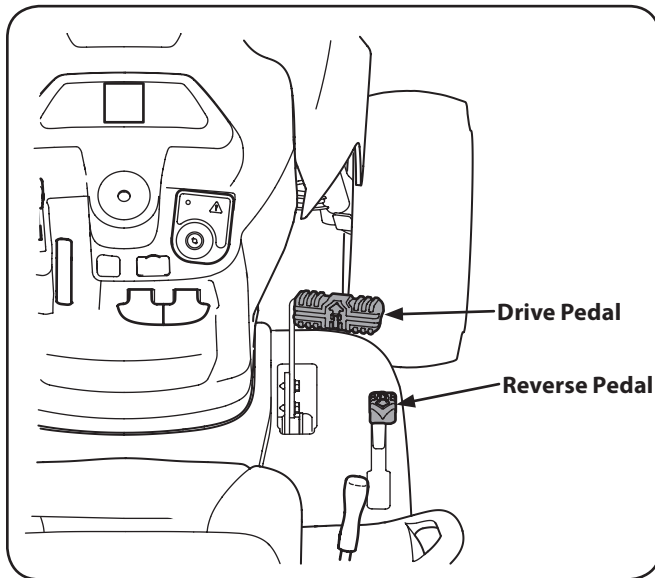

Figure 5-1
2. To travel FORWARD, slowly press the drive pedal forward until the desired speed is achieved. See Fig. 5-1.
3. To travel in REVERSE, check that the area behind is clear then slowly depress the reverse pedal with the ball of your foot (NOT your heel) until the desired speed is achieved. See Fig. 5-1.